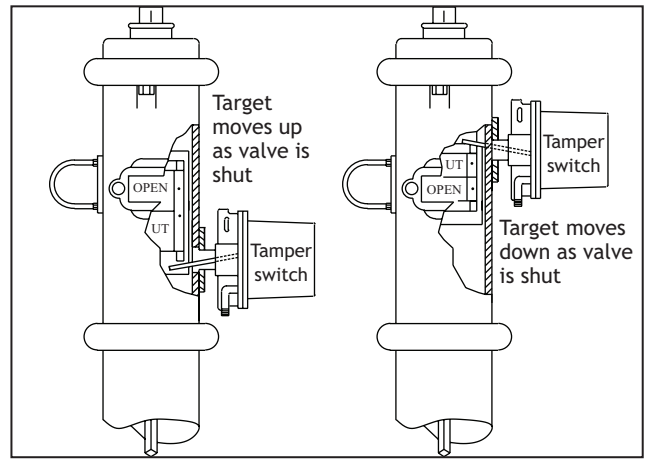

Figure 2: Target Moves As Valve is Shut
3. If the target assembly moved up as the valve was closed, measure the distance from the bottom of the head to the lower part of the target assembly that contacts the trip rod of the PCVS (see Fig. 2). This is usually a plate or bar on the target assembly, on a side adjacent to the “OPEN/SHUT” plates. Subtract 1/8” from the measurement. If the target moved down as the valve was closed, measure the distance from the bottom of the head to the upper portion of the target assembly that contacts the trip rod of the PCVS (see Fig. 2). Add 1/8” to this measurement.